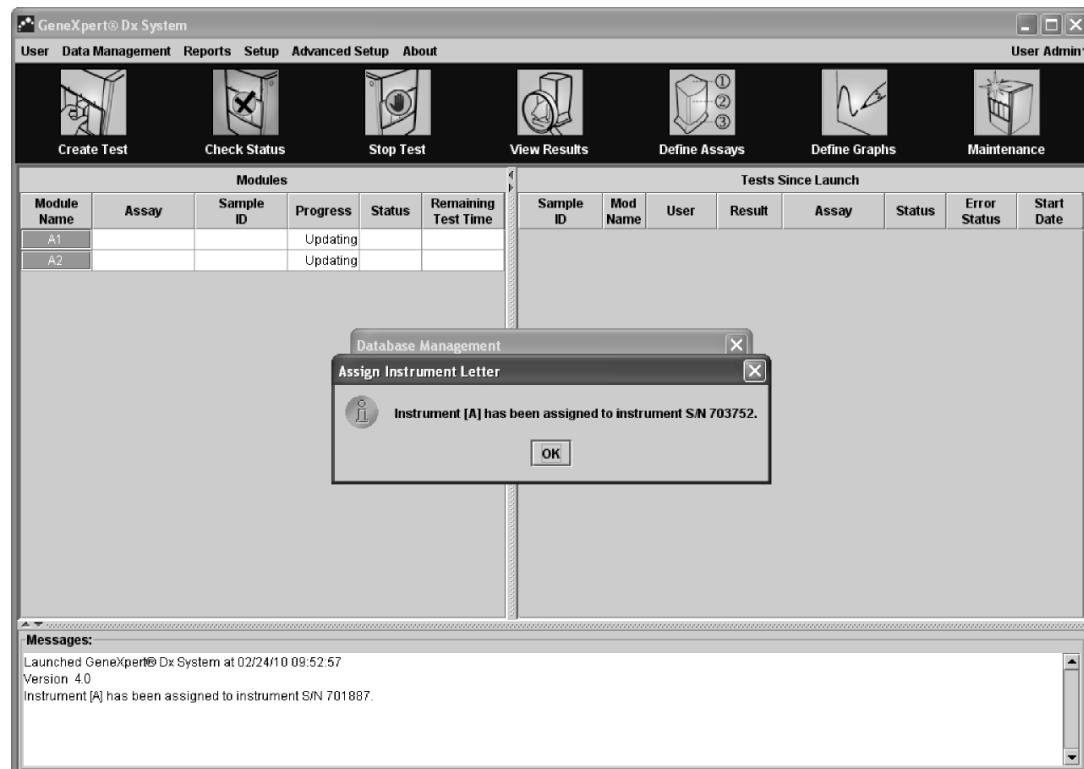

Figure 2-12. GeneXpert System window—Assign Instrument Letter dialog box
As the software is starting, the green light above each module door flashes briefly, then turns off. The first time you start the software after installation, an Assign Instrument Letter confirmation dialog box appears (Figure 2-12). After automatic instrument letter assignment, and every time you start the software thereafter, the GeneXpert Dx System window appears without the Assign Instrument Letter confirmation dialog box.
8. Click OK in the Assign Instrument Letter dialog box (Figure 2-12).